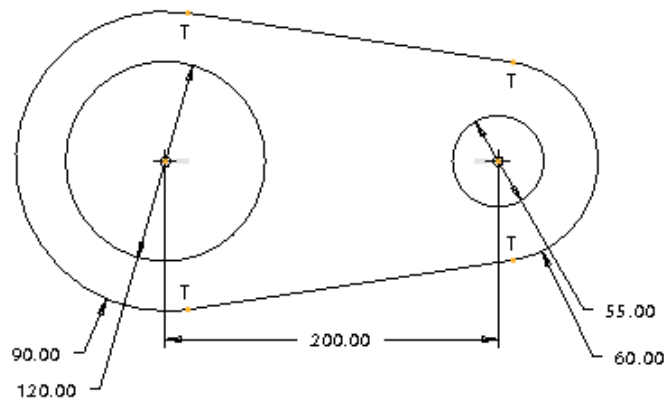

Figure 3-22 Sketch imported and placed in the current file
- Import the section by using the **File System** button, refer to Figure 3-22.
5. Choose the **Refit** button from the **In-graphics** toolbar. The sketch, similar to the one shown in Figure 3-22, is displayed in the drawing area.